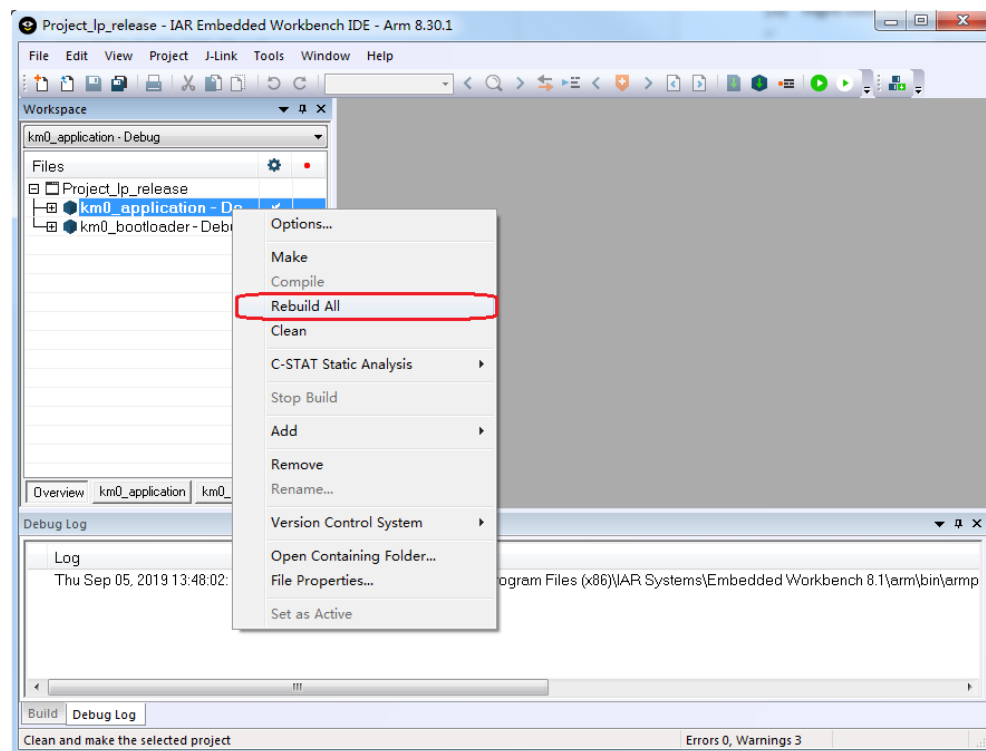

Fig 1-6 Building KM0 project
- (3) Right click the project and choose "Rebuild All", as Fig 1-6 shows. The km0_bootloader and km0_application should compile in order.